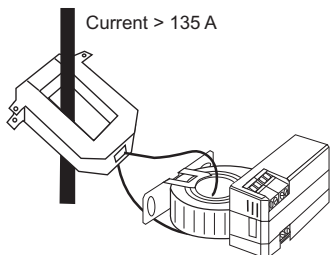

Figure 4: CSS with CT Transformer
Motor is turned on and switch does not close	Insufficient current to the load leads (for example a motor or heater) to reach the setpoint threshold. To turn the switch on, wrap the cable multiple times through the sensing hole (see Figure 4.)
Use a 5 A Current Transformer (CT) to reduce the current passing through the CSS as shown in Figure 4. Run the current transformer secondary wire through the sensing hole. Terminate the two secondary wires of the 5 A current transformer to each other, and then install the 5A current transformer in the conductor being monitored.